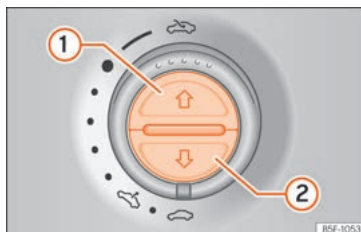

Fig. 149 On the interior roof lining: switches for the sun blind.
Opening completely (automatic function)	Press button » Fig. 149 ① briefly.
- The switch should be in the "closed position" »»  page 20 (1).
- *Panoramic sliding sunroof:* Within five seconds of triggering the anti-trap function, pull the control all the way back »»  page 20 (arrow (5)) until the panoramic sliding sunroof closes fully.
- *Sun blind:* Within five seconds of triggering the anti-trap function, press button »» Fig. 149 (2) until the sun blind closes fully.